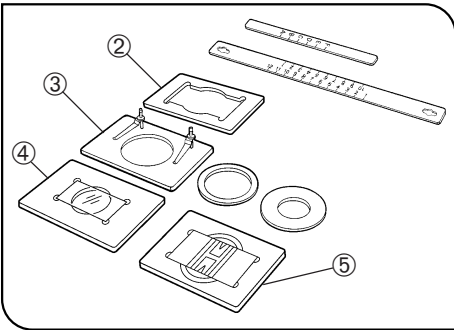

Fig. 10
- ⊙ To secure other vessels than microtiter plates, various optional holders are available. A Terasaki plate holder ② is available for holding Terasaki plates (72-well, 60-well). When using this, it is necessary to replace the stage scales with those provided with the plate holder. Petri dish holder ③ is available for 35 mm, 54 mm and 65 mm diameter petri dishes, a slide glass holder ④ is available for holding slide glass, and the IX2-BCTP* ⑤ is available for a blood cell test plate holder. (Fig. 10)